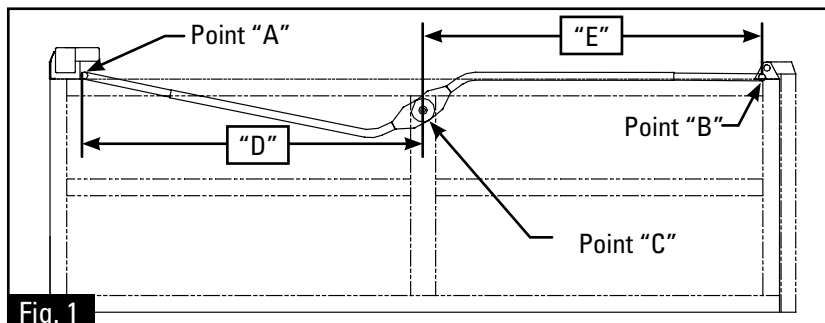
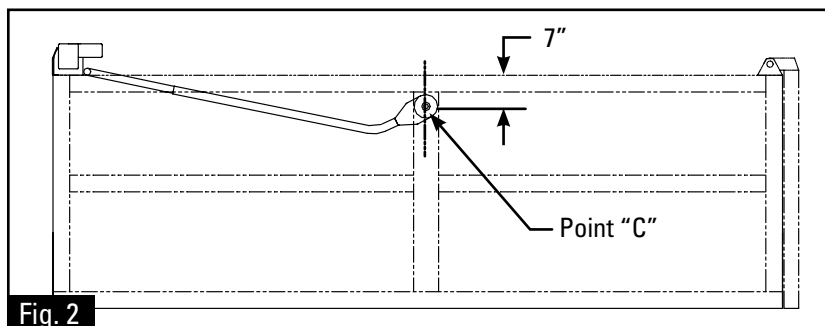

Fig. 1
Fig. 2
Step 1: Careful measurements must be taken to insure that the arm and pivot assemblies are mounted square and parallel to the truck or trailer body. Locate the proper mounting positions by determining Point "A" and Point "B" and insuring measurement "D" and "E" are equal (Fig. 1). The pivot "C" should be 1/2 way between Point "A" and Point "B" and 7" below the top rail on both sides (Fig. 2).